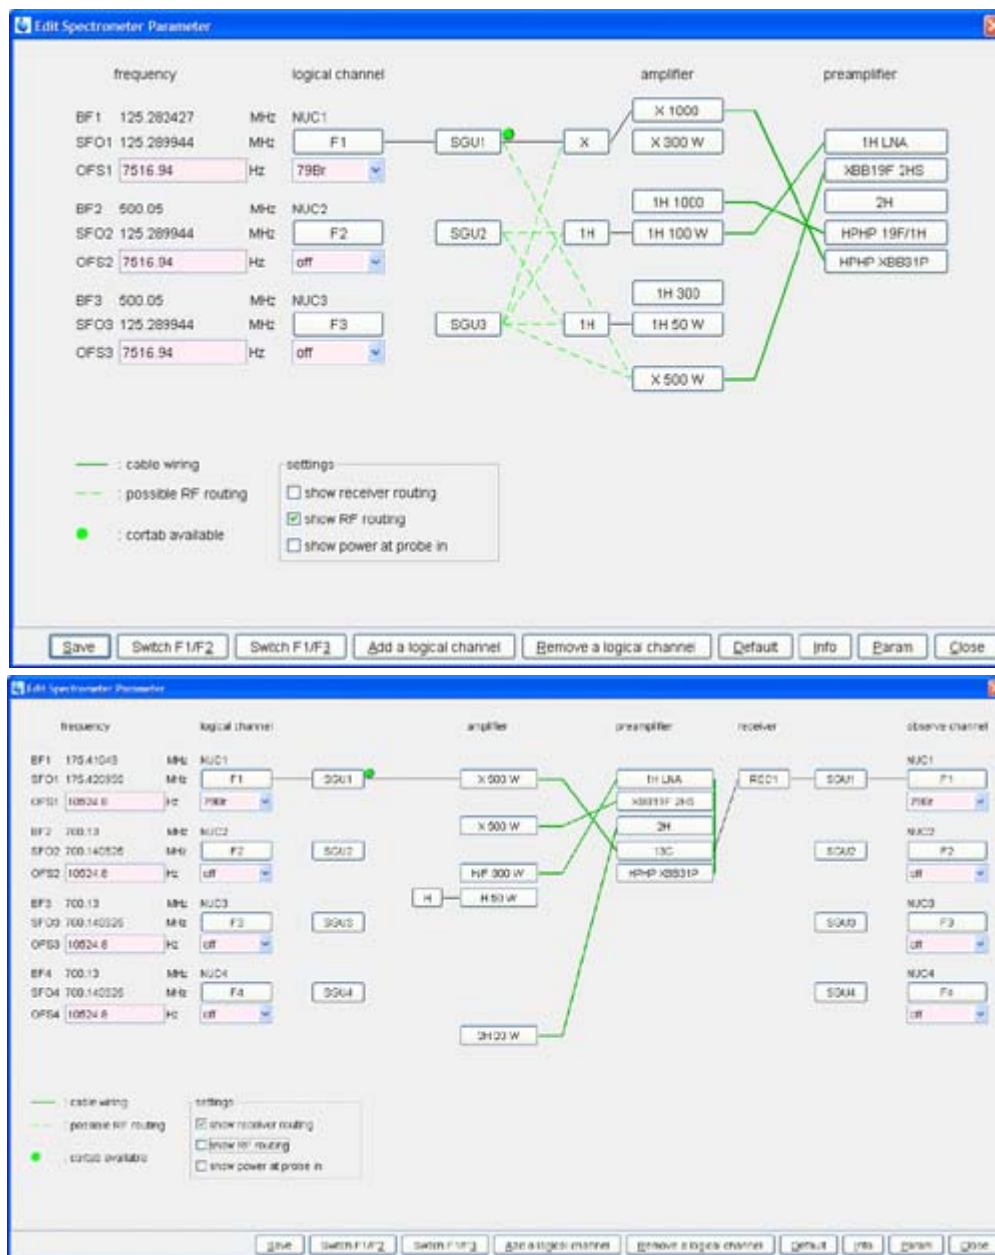

Figure 2.4 Routing Table Examples
2. Click the default button to make sure the high power stages of the available dual stage amplifiers are selected (see Figure 2.4).
In Figure 2.4 (TOP) is a routing table with the default routing for the KBr experiment. The green dotted lines show all available routing options. Note, the routing is only effective, if the parameter **powmod = high** (**powmod** can have the values **high**, **low** and **linear**). The value **linear** is not used). In the (BOTTOM) is another routing example with the receiver routing open. Make sure that the receiver routing is correct! This is important in particular with some special configurations. If **wobb** works but you see no signal, most likely is the receiver routing incorrect.
To test the available routing, press the button “**show RF routing**” in the **settings** area of the routing editor display (see Figure 2.4). We suggest checking the receiver routing as well and make sure it is displayed properly, otherwise one needs to make the connection the usual way with mouse clicks.